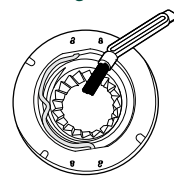

Figure 3
12. Place the upper burr and bean hopper back on by locking it in place, clockwise (figure 3).